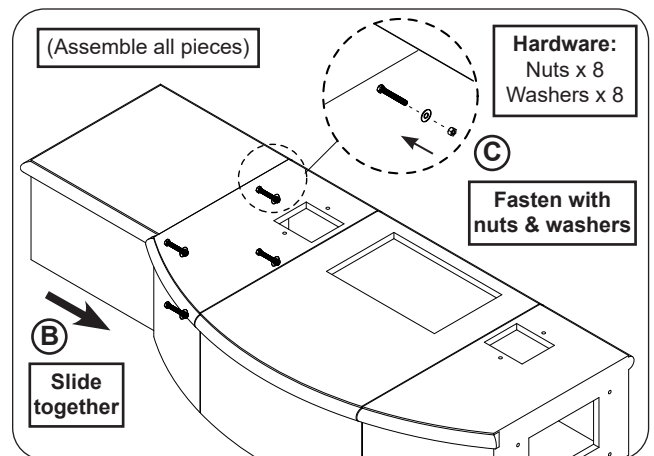

Fig. 24-2 Assemble hearth - slide together & fasten
3. Carefully slide the left outer-piece against the center piece while aligning the pilot holes. Then reach into the center hearth (through access opening), place the washers and nuts, and hand tighten. See Fig. 24-2.